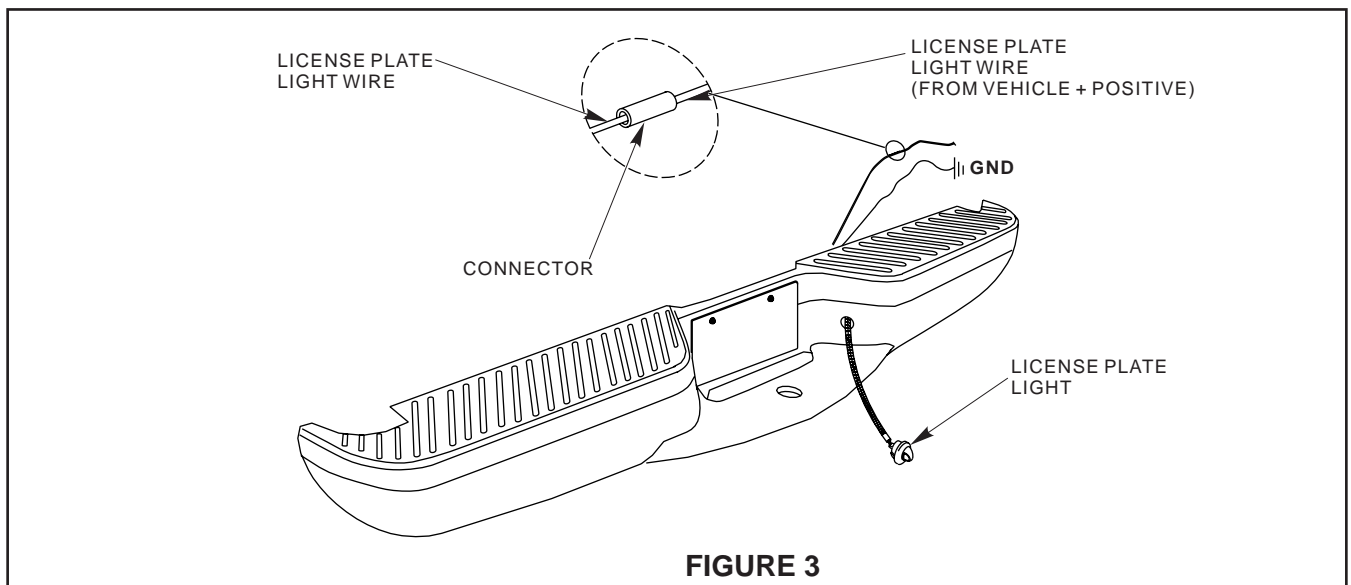

FIGURE 3
- STEP 6.** Install license plate lights into bumper. Splice light wires into truck wiring using supplied connectors. Ensure license plate lights are functioning properly. (See Figure 3).